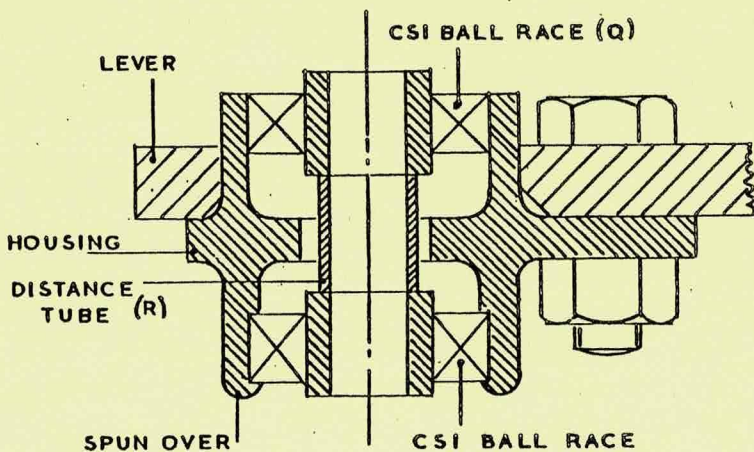

FIG 1
27. Levers Incorporating Double Ball Races. Care is to be taken when refitting lever assemblies incorporating double ball races to ensure that the centre distance piece is correctly aligned and that the unspun ball race is fully home in its housing. On completion of fitment ensure that the unspun ball race has not been disturbed. (See Fig 1 for general assembly).